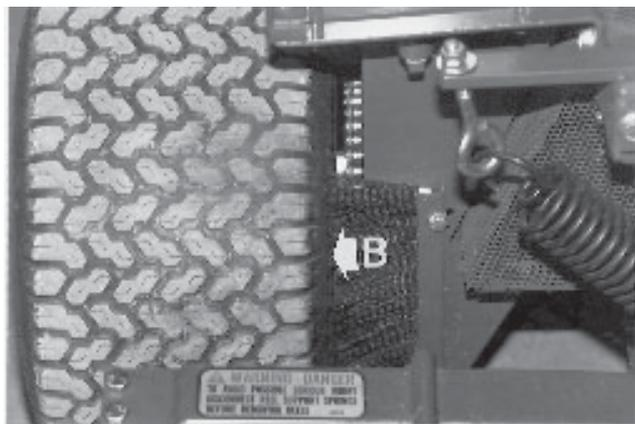

Fig.19
**REEL SPRING** (Fig.19)
**WHEEL BRUSHES** (Fig.19)
**ROLVEER** (Afb.19)
**WIELBORSTELS** (Afb.19)
**RESSORT DE CYLINDRE** (Fig.19)
**BROSSES DE ROUES** (Fig. 19)